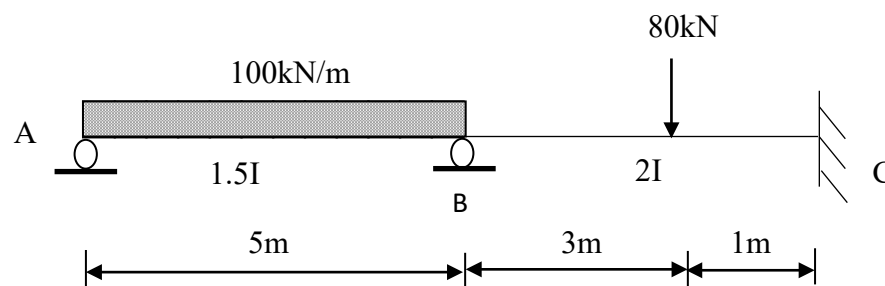

Figure B3(a) / Rajah B3(a)
A continuous beam is supported by a roller at A and B while fixed at support C as shown in Figure B3(a). The beam carries a uniformly distributed load of 100kN/m along span AB and a point load of 80kN at span BC.
- CLO1 (a) Identify the stiffness factor of the beam in Figure B3(a).